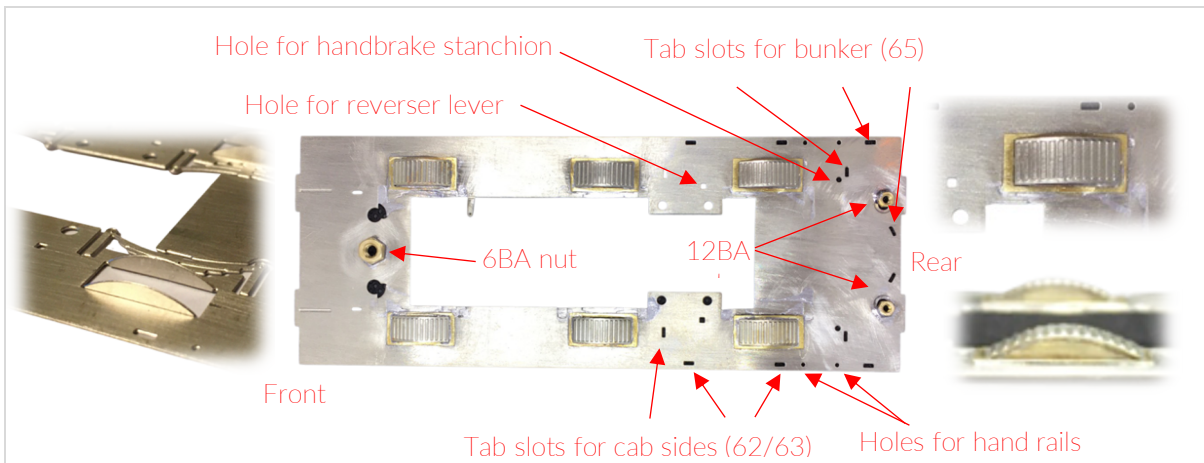

Fig 2.1 - Splasher sides, trims & tops
2.1 – Splasher Sides. Remove the running plate (48) from the fret and clean up the cusps & tabs. Fold up the splasher sides so they are vertical. It is wise to use a steel rule or similar to place just below the fold lines when bending – as it's a small part on a tough material, this will prevent the footplate itself from distorting (Fig 2.1).
2.2 – Splasher Trims. Be careful when removing the splasher trims (42) from the fret – they are only half-etched at 0.15mm thick, and can be distorted very easily if removing from the fret with cutters. The best option is a VERY sharp knife blade. Tin one side with solder, place over the splasher sides folded up in the previous step, and solder to the footplate. Clean up any excess solder to leave a crisp edge (Fig 2.1).
2.3 – Splasher Tops. Options for plain tops (41) or ribbed (40) are provided in this kit. Form a bend in each one around a 12.75mm diameter (or close) rod. The parts are easily formed though, so the diameter isn't too critical – I used the shaft of a tapered reamer, but a 13mm drill shaft would work equally as well. Look out for the notches in 4 of them – these are to avoid fouling the smoke/fire boxes. Solder centrally onto the splasher sides from underneath. Use minimal solder as the tight corners are hard to clean up. There should be a slight overhang at each side (Fig 2.1).
2.6 – Retaining Nuts. Check that the holes match up with the holes in the chassis (there is some 'play' in the slot & tab arrangement). Solder a 6BA nut centrally over the hole near the front of the footplate, and two 10BA nuts over the holes near the rear. (Fig 2.1)
2.10 – Cab Sides. On both the left (63) and right (62) cab sides, there are small triangular markers on the top and bottom edge. The middle of these markers denotes the centre of the bend, with the outside markers denoting the start and end of the bend. Lightly scribe the centre line on (use a permanent marker so as not to scratch the metal) the outside of the cab sides. Now file off the markers from the top edge. Solder half-round brass beading centrally across the top of each of the cab sides whilst still flat. End the beading flush with the edge of the panel at the firebox end, but leave over-long at the can entrance end as the vertical handrail will need to be soldered to it later on. Bend the cab side through 90°, using a 5mm drill bit to achieve the required radius. File the triangular markers from the bottom edge off, and solder to the footplate. See Fig 2.1 for which slots to use. Finally, use 0.7mm wire to add the vertical cab handrails through the hole in the footplate next to the cab sides. Solder to the over-hanging half-round beading and trim the rest of the beading, leaving 0.5mm of over-hang after the handrail. On the bunker side of the cab entrance, solder a handrail knob to the top of a length of 0.7mm wire. Pass the wire through the hole in the footplate next to the bunker, and solder, attaching the end of the handrail knob to the top of the bunker. See GA drawing for position.